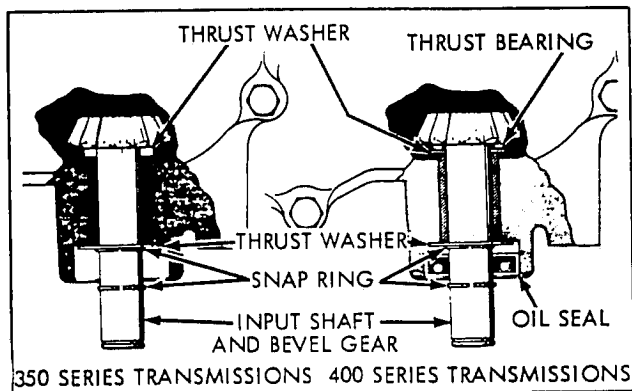

Figure 2-12 Input Shaft (Cutaway View)
1. Install and secure the input shaft. Refer to Figure 2-12 for arrangement of parts depending upon series being repaired.